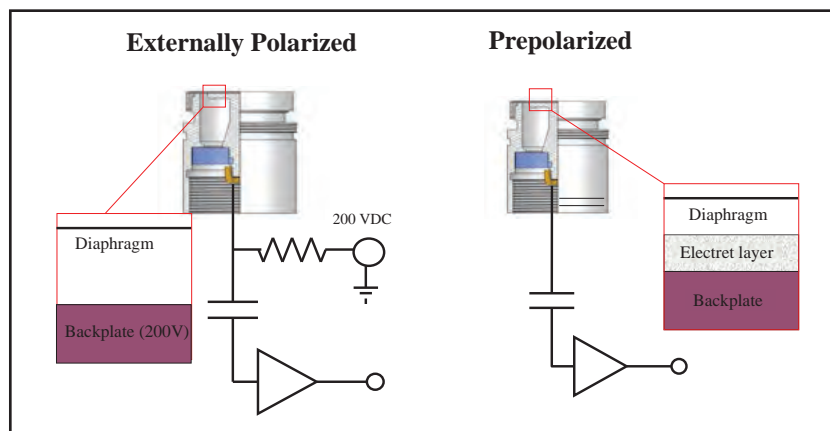

Figure 1: The difference between an externally polarized vs. self-polarized microphone is the source of the DC when the diaphragm is at rest.
**Figure 1** shows a diagram of the PCB Piezotronics capsule construction (self-polarized) contrasted with a condenser capsule (externally polarized). Another way in which lab-grade measurement microphones differ from conventional recording or inexpensive measurement microphones is the method of getting the signal from the diaphragm to a voltage and current level compatible with measurement inputs (e.g., analog-to-digital-converter cards).